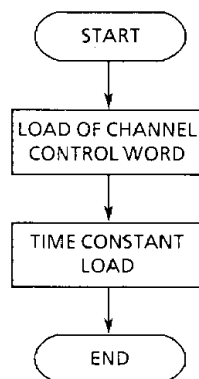

Figure 3.16 Timer Programming Procedure
(2) Timer mode
- (a) The timer programming procedure with interrupt disabled is shown in Figure 3.16